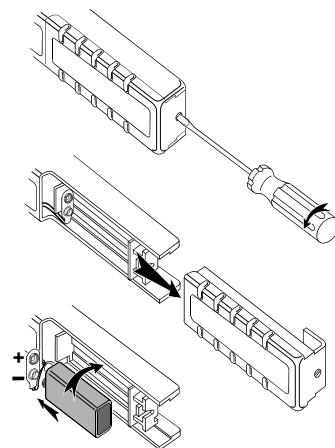

Figure 2. Installing the Battery
- At first use, remember to install the battery. Referring to Figure 2, use the following procedure to install the battery:
- Locate the battery cover on the handle. (see Figure 2.) Loosen the screw with a flat-blade screwdriver.
- Install the battery (IEC 6LR61) as shown in Figure 2. Arrange the battery leads so that they will not be pinched between the handle bottom and the battery cover.